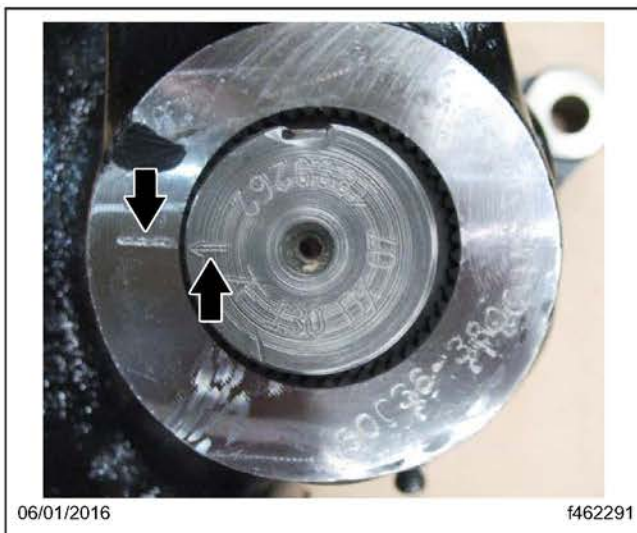

Fig. 12, Alignment Marks on the Shaft of the Steering Gear and Pitman Arm
8. Install the pitman arm on the new steering gear. Make sure the alignment marks on the shaft of the box and the pitman arm match up. See Fig. 12 .